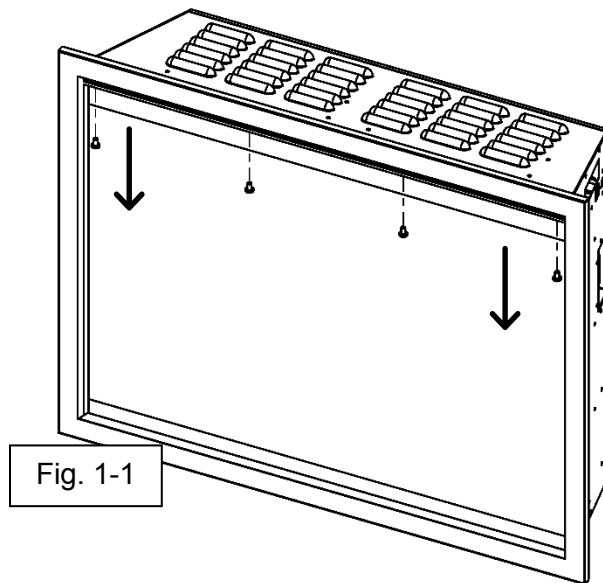

Fig. 1-1
- With one hand on the front glass to prevent it from falling, remove the screws from the underside of the viewing area of the fireplace (Fig. 1-1). Quantity of screws may change depending on fireplace size. Set the screws aside.